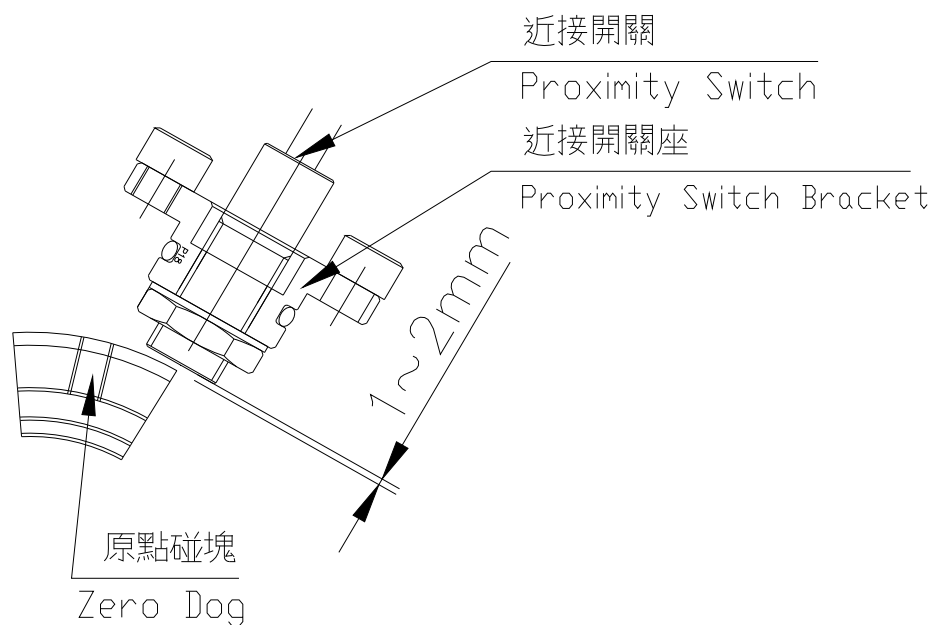

Fig 8-1
- Excessive distance between proximity switch and Zero Dog (remove proximity switch bracket, loosen nut and adjust the distance of proximity switch); the optimal distance shall be 1.0~2.0 mm. (*see Fig 8-1*)